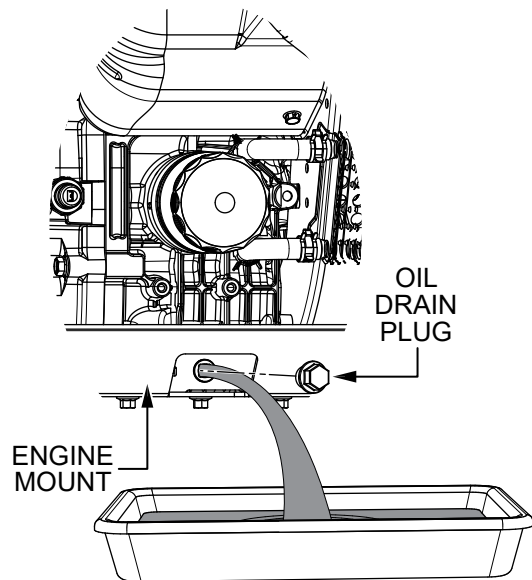

Figure 32. Draining The Engine Oil
5. Remove the **oil drain plug** (Figure 32) and allow the oil to drain into a suitable container.